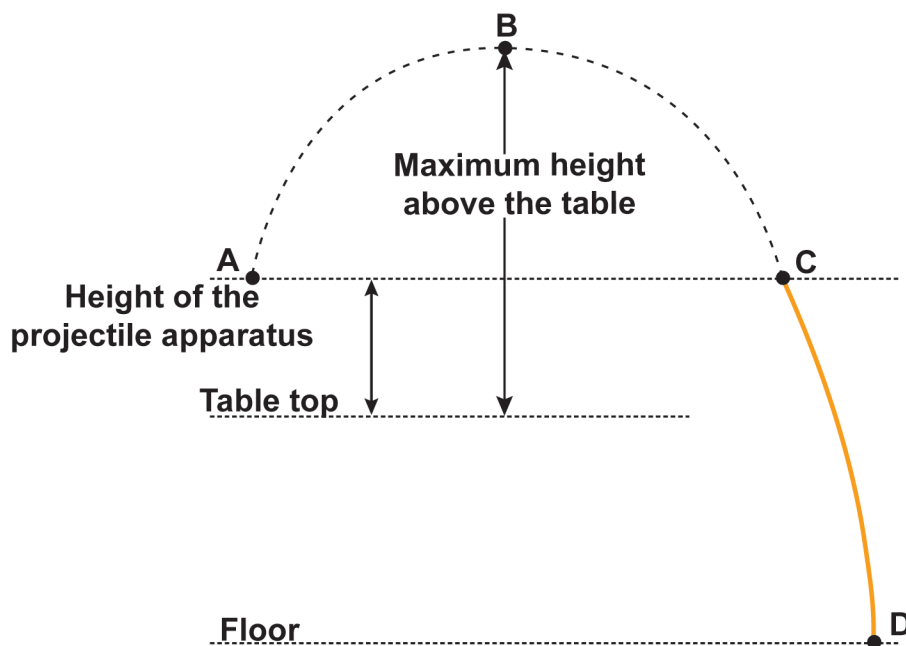

Figure 15
- ❑ 1. To work with the projectile path we need to divide the path into sections that identify the important points. See Figure 15.